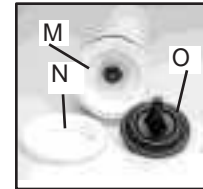

Figure 9.
Note: Grease O-rings for re-assembly. Screw the valve assembly into the cylinder. Figure 9.
10. Place diaphragm assembly (O) onto the pump housing (M). Place the flange (N) over the diaphragm. Reinstall the 12 torx screws around the outside diameter of the flange. Figure 9.